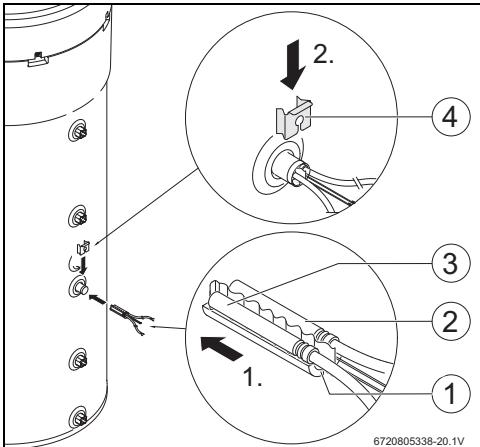

Fig. 7
- Install the installation set [1], temperature sensor NTC of the accessory [2] and the temperature sensor NTC of the control unit [3] and position them as shown in Fig. 7.